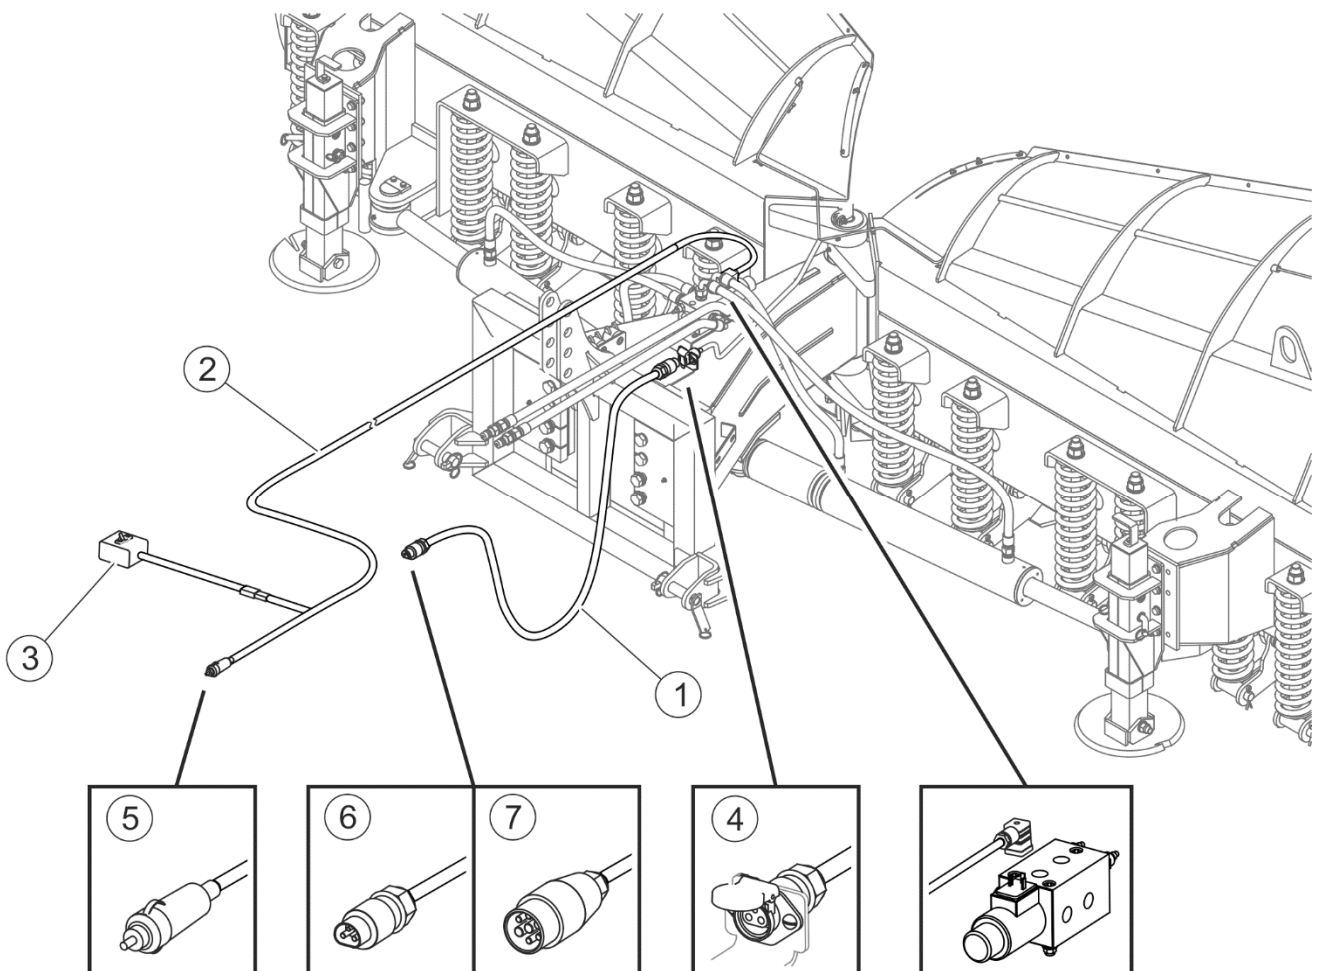

FIGURE 4.4 Connecting the electrical system
(1) - power lead of lighting system; (2) - control lead of hydraulic solenoid valve; (3) - solenoid valve control switch; (4) - 3-pin socket, (5) - cigarette lighter plug; (6) - 3-pin plug; (7) - 7-pin plug (option)
Connect power lead (1) of lighting system (FIGURE 4.4), ended with a 3-pin plug (6), to 3-pin socket (4) on the snow plough frame and connect the other end of the lead to 3-pin socket in the carrying vehicle (or to 7-pin socket, depending on version). Connect lead (2) to the snow